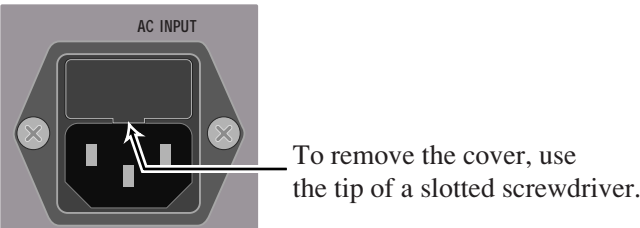

Fig. 1-4 Fuse holder on the rear panel
4. Remove the cover from the fuse holder. (Fig. 1-4)
5. Check the fuse to make sure its rated voltage is within the line voltage range, and that its pre-arcing time-current characteristic is of the time-delay (T) type.